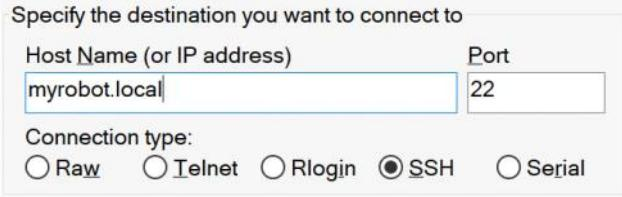

Figure 4.10 – Say Yes to rebooting
2. The next screen asks whether you want to reboot the Pi. Select Yes and press Enter (Figure 4.10);